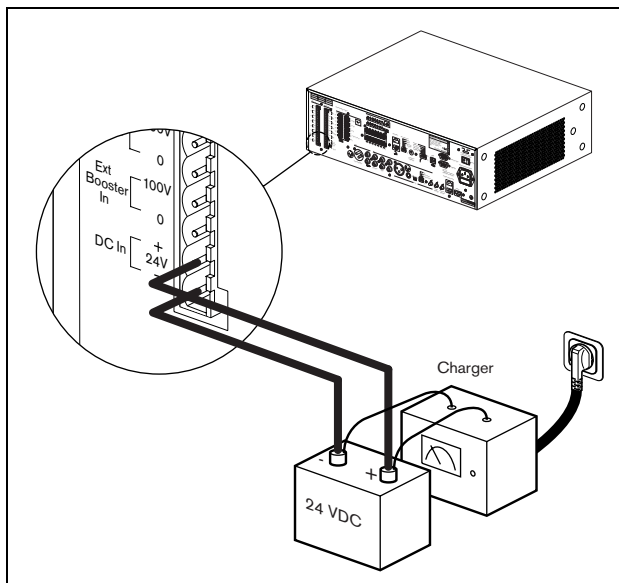

figure 5.20: Connecting a back-up power supply
The voice alarm controller has a 24 V(DC) input to connect a back-up power supply (e.g. a battery) which powers the system if the mains power is not available. See figure 5.20 for connection details.